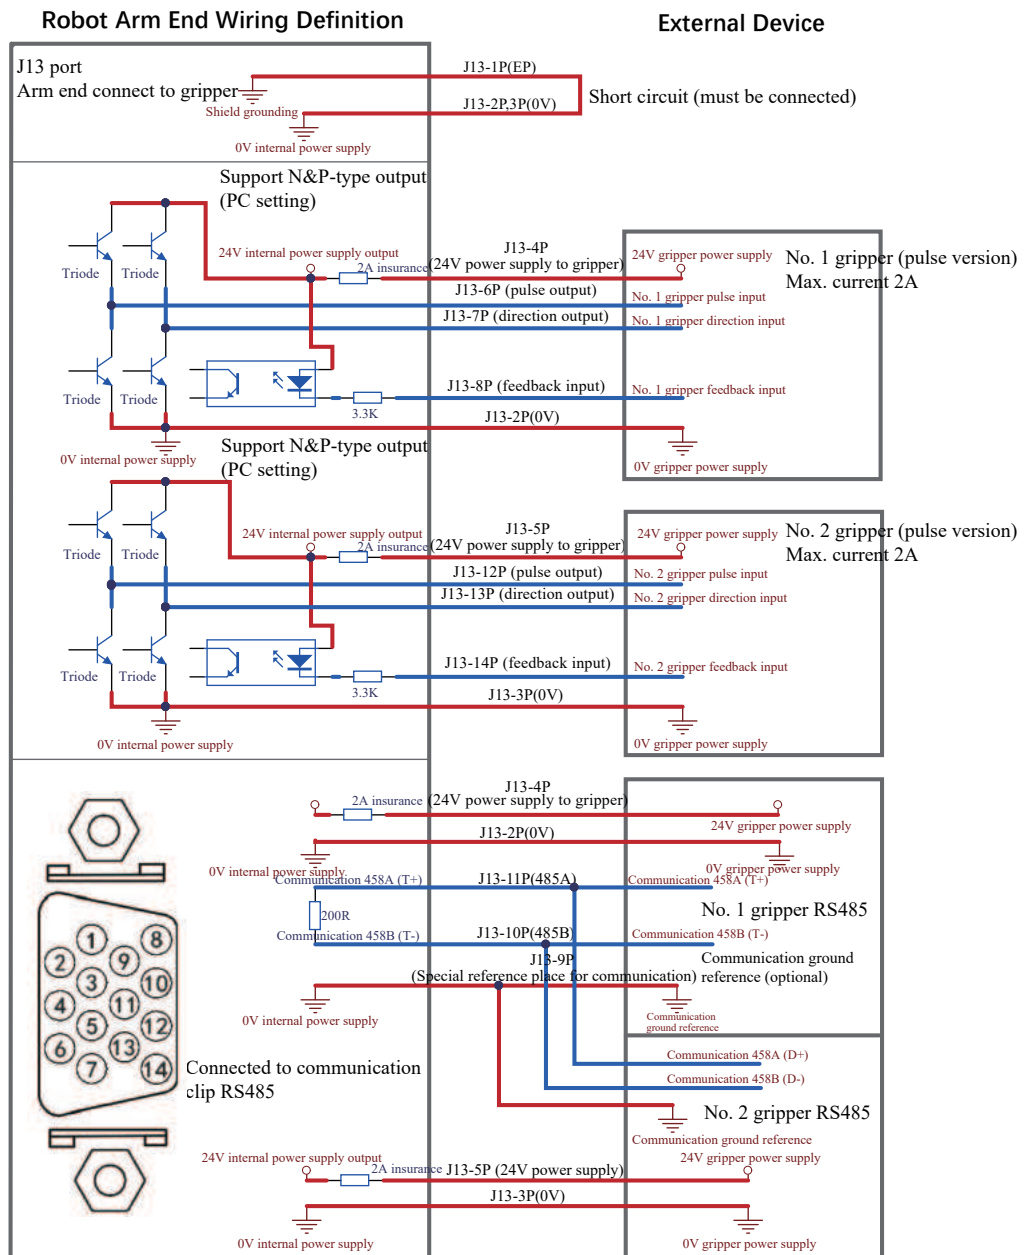

Figure 6
8. J13 interface SCSI-14P pin definition (as shown in Figure 6)